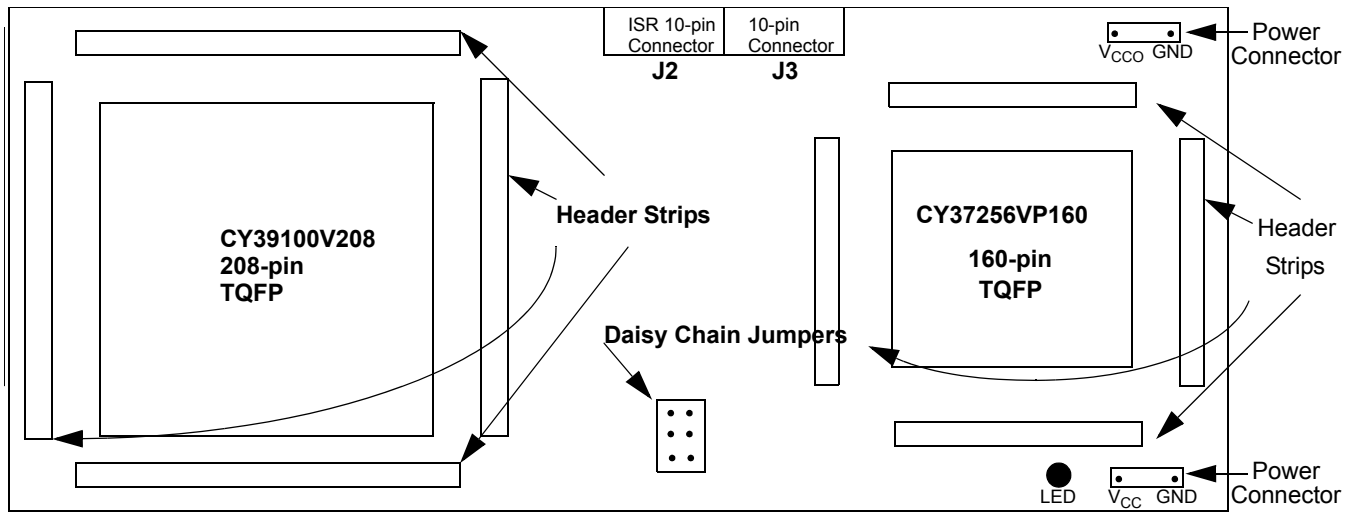

Figure 1. Delta39K/Ultra37000 Prototype Board
4. See *Figure 1* for the basic layout.